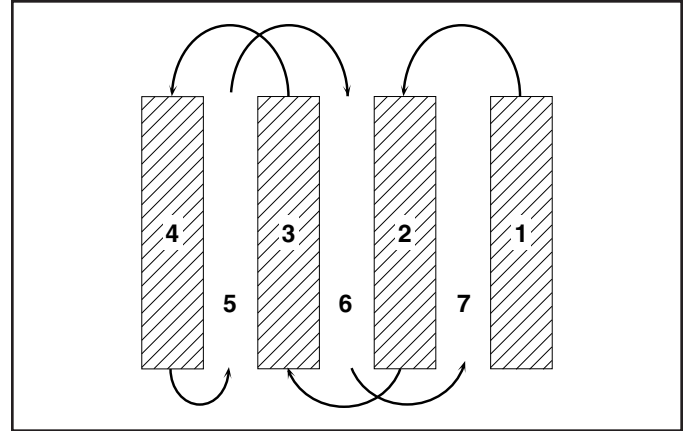

Fig. 10
- You will find tilling much easier if you leave a row untilled between passes. Then go back between tilled rows. (See Fig. 10) There are two reasons for doing this. First, wide turns are much easier to negotiate than about-faces. Second, the tiller won't be pulling itself, and you, toward the row next to it.